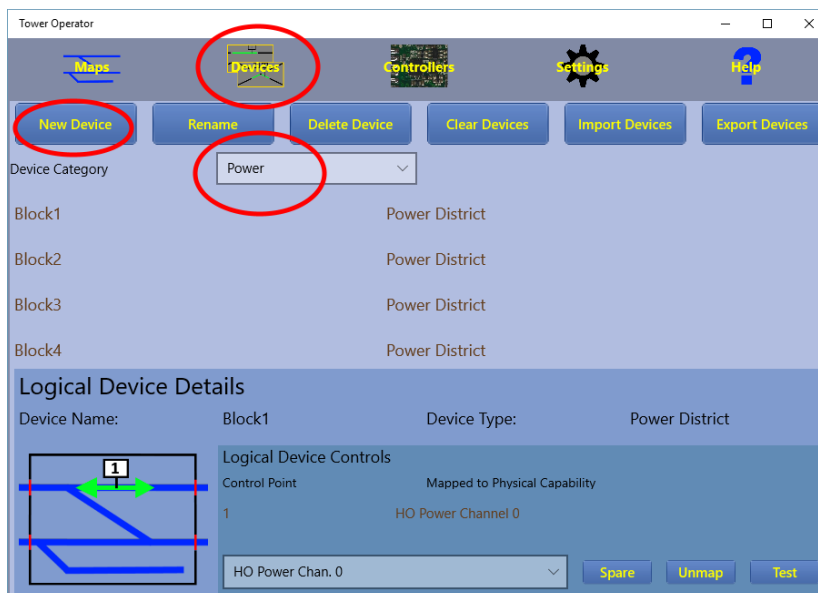

Figure 25 The Logical Devices Screen
- (1) Click on the Devices tab in Tower Operator and, in the Device Category drop-down selector, select Power. Then click the New Device button as Figure 25.